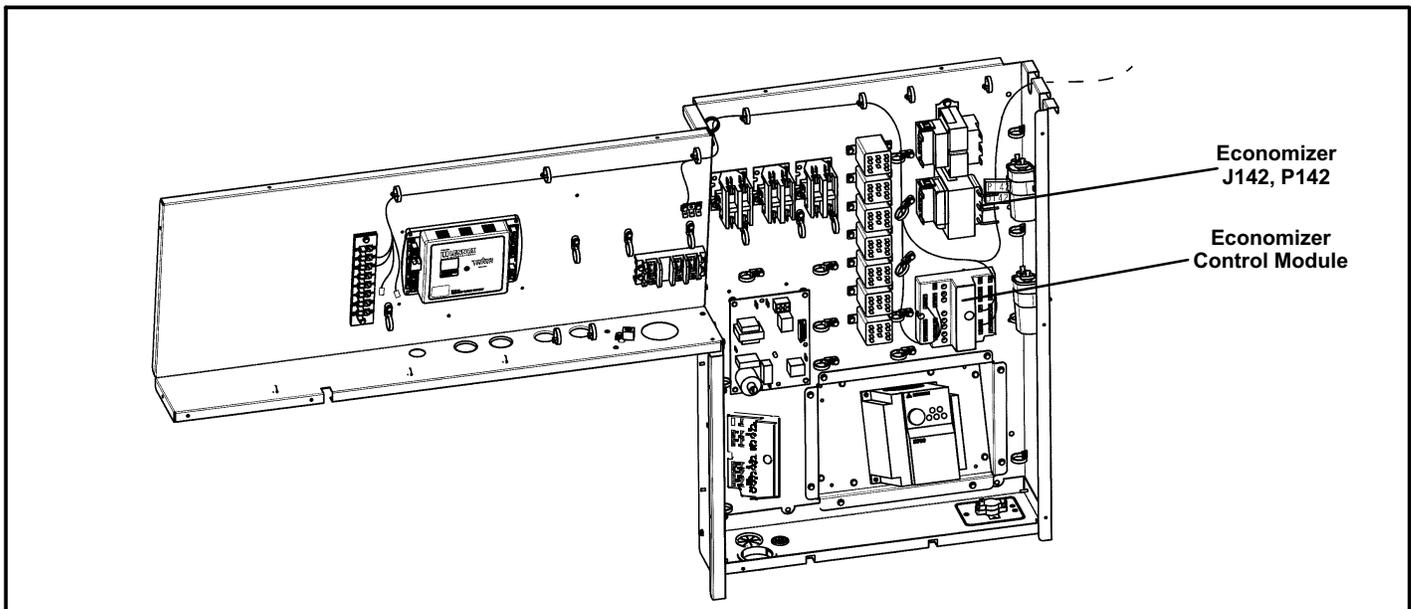

FIGURE 24
1- The economizer control module is located below the actuator for shipping. Relocate the control to the unit control box, see Figure 24.
- 2- Route the control wires to unit terminal block (TB1) and connect these wires to TB1 as following (see Figure 24):